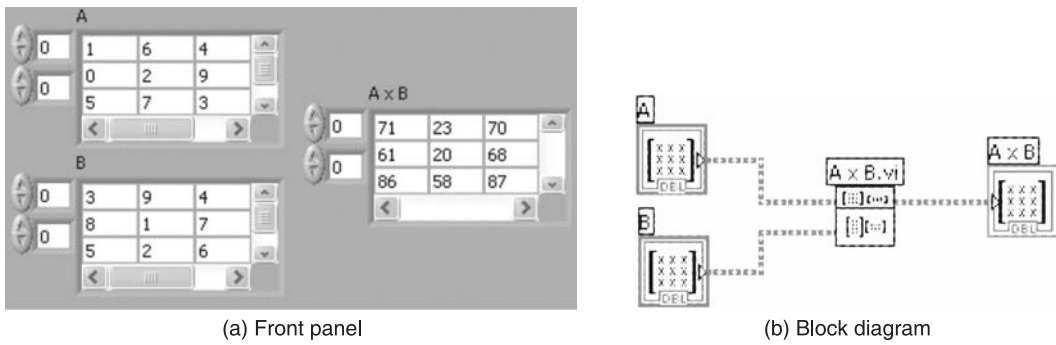

Figure P5.11
**Solution** Create the front panel and the block diagram to solve the problem as shown in Figures P5.11(a) and P5.11(b).